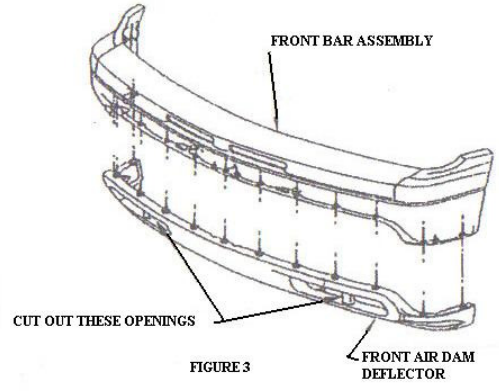

FIGURE 3
STEP 4 ATTACH BRACKETS TO FRAME USING ½" FASTENERS AS SHOWN. LEAVE LOOSE. **NOTE**, FOR VEHICLES W/OUT TOW HOOKS A SMALL OPENING MAY NEED TO BE CUT OUT IN THE TWO INSIDE INDENTS OF THE AIRDAM USING A UTILITY KNIFE. SEE FIGURE 3.